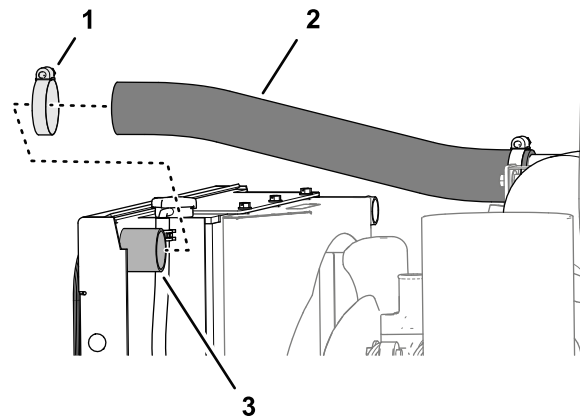

Figure 40
- Assemble the free end of the air-intake hose over the outlet at the top of the radiator (Figure 40).
- Secure the hose to the outlet with the hose clamp (Figure 40) that you removed in 5 Removing the Radiator Hoses (page 8).